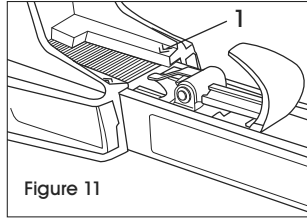

Figure 11
NOTE: There is a reloading arrow (1) on both sides of magazine. (See Figure 11) If there are few staples left in the magazine, the staples should be refilled. The correct type of staple is marked on the left side of the magazine. Use the right length of staples for application.